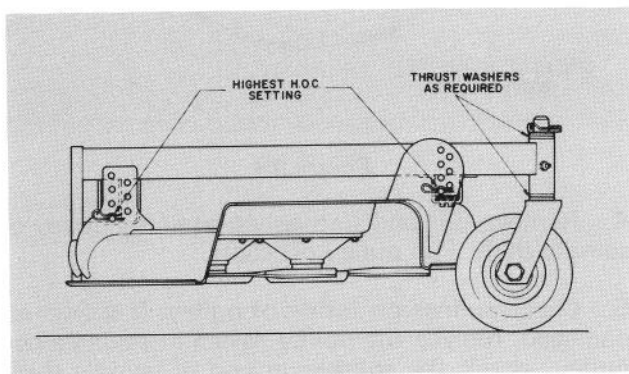

Figure 14
1. Check to make sure front height-of-cut pins are resting properly on frame cushions (Fig. 14).
2. Raise height-of-cut to the 3½" (89 mm) or 4 in. (102 mm) position (Fig. 14): refer to Adjusting Height-Of-Cut, page 6.
- A. Cutting units usually operated at 1 to 2 in. (25 to 51 mm) height-of-cut should have the low side of the cutting unit raised. Remove the lynch pin securing castor wheel on low end (Fig. 14) and remove castor assembly.
- B. Transfer one thrust washer from top side of castor shaft to lower side, install castor assembly and compare blade height of all blades; refer to items 3 through 7. Continue adding thrust washers if height still does not meet requirements.
- C. If cutting unit is operated at 2 to 4 in. (51 to 102 mm) height-of-cut, lower the high side of cutting unit. Remove lynch pin of castor at high end of unit and remove castor assembly (Fig. 14).
- D. Transfer one thrust washer from lower side of castor shaft to top side, install assembly and compare blade height of all blades; refer to items 3 through 7. Repeat procedure if height still does not meet requirements.